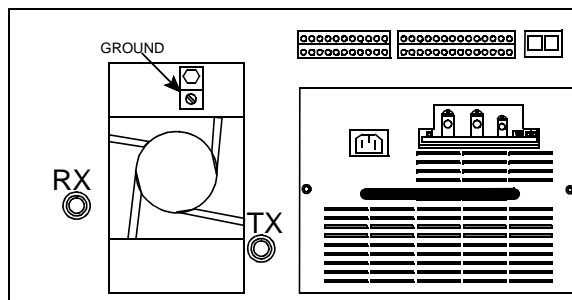

Figure 2-8 ANTENNA CONNECTIONS
*NOTE: Each repeater should be grounded separately by connecting a ground bus from the ground lug on the back side of the RF module to the ground bar on the rack (see Figure 2-8).*
Receive and Transmit antenna connector locations are shown in Figure 2-8. Although each transmitter and receiver could be connected to a separate antenna, this is usually not done because of the large number of antennas required by a multiple repeater installation. Therefore, an antenna combining system is usually used. An example of a combining system for a five-channel system is shown in Figure 2-5. The amount of power loss introduced by a combiner depends on the type of combiner used. If it has a loss of 3 dB, power output to the antenna is reduced by half.